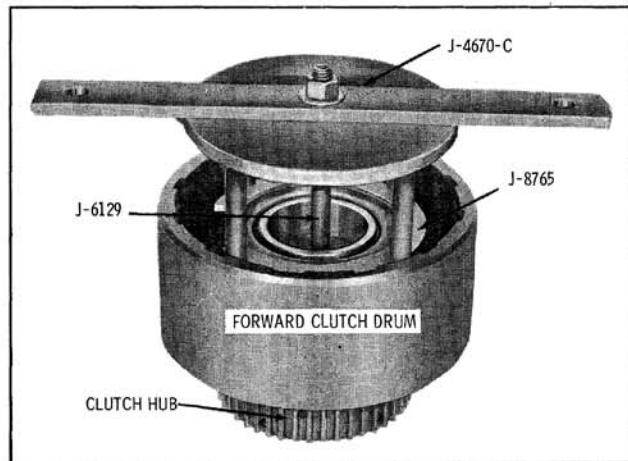

Fig. 6-447 Installing Snap Ring
7. With spring retainer in place, compress spring retainer with Tools J-4670-C, J-8765 and J-6129 far enough so the spring retainer snap ring can be installed. Make sure retainer doesn't catch in snap ring groove when compressing spring. (Fig. 6-447)